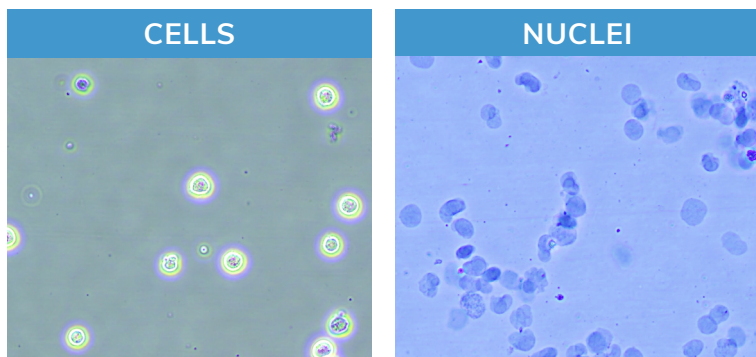

FIGURE 17
10. Load onto hemacytometer slide and examine under brightfield/phase microscope to determine whether nuclei have been efficiently isolated (**Figure 17**).